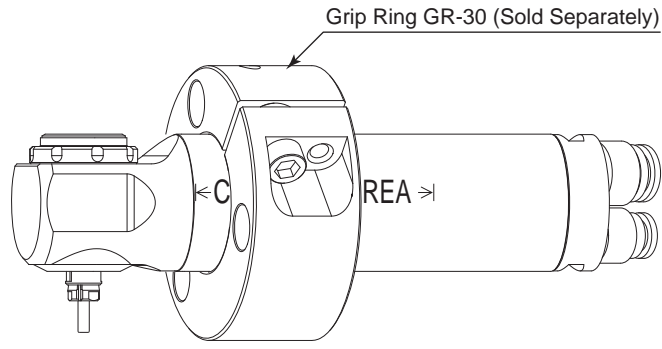

Fig. 7
* When installing the Air Motor Spindle, it is recommended to use a " GR - 30 Grip Ring (sold separately (Fig. 7)) ". If the GR - 30 Grip Ring cannot be used due to the restriction of dimension and space, install as shown in ② below.